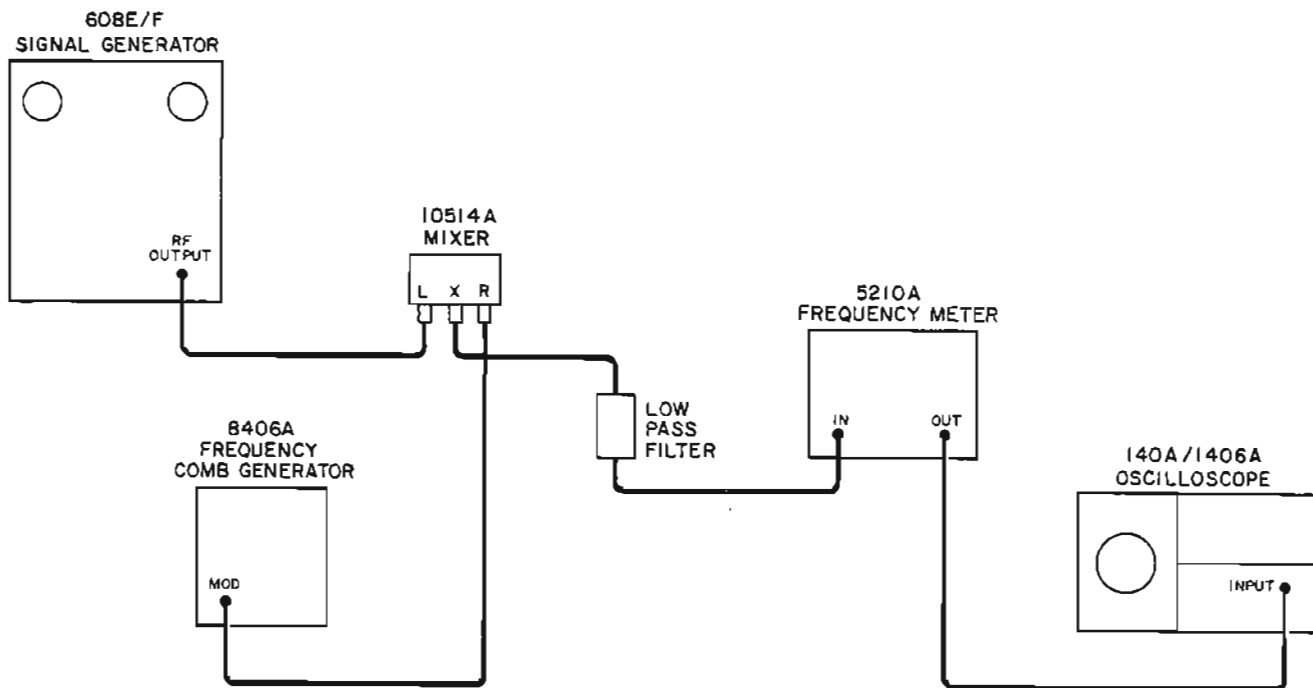

Figure 5-4. Residual and Incidental FM Test Setup
- a. Connect signal generator in test setup illustrated in Figure 5-4.